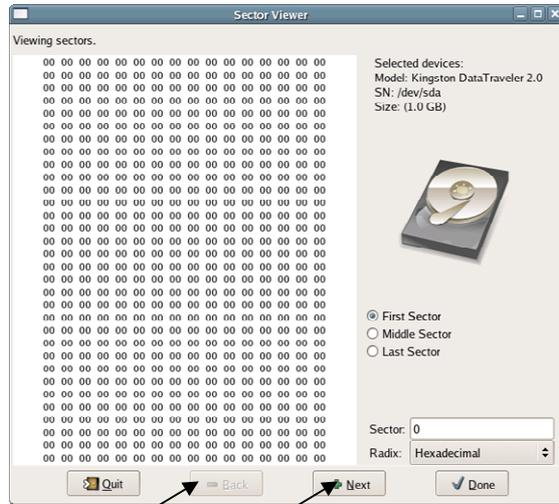

Figure 5.2 - Location of Next and Done Buttons on Sector Viewer Screen
5.3 Use the “Next” or “Back” button to go to the next sector. You can also enter the sector number in the “Sector” input window. The sectors can also be viewed using the scroll bar on the right hand side of the pop-up window. Figure 5.2 shows the location of these buttons.